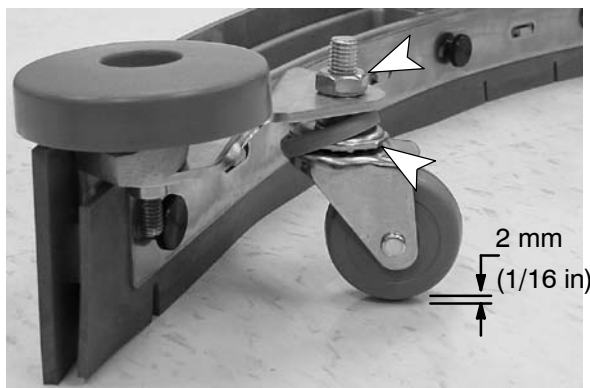

FIG. 40
1. To check the squeegee assembly for proper adjustment, remove the squeegee assembly from the machine and place it on a level surface. Measure the distance between the caster and the surface. It should measure approximately 2 mm (1/16 in) (Figure 40).
2. To adjust the caster height, loosen the top nut and remove the plastic bearing cover to access the adjustment nut. Turn the adjustment nut until properly adjusted (Figure 40). After adjusting, tighten the top nut and replace the plastic bearing cover. Repeat step for the other caster.